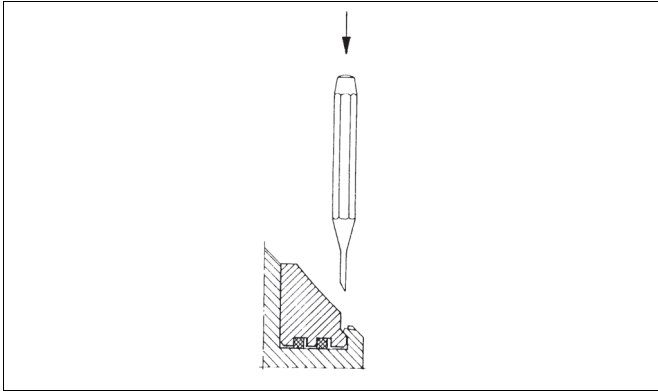

Fig. 10 Opening the seat locking
- Open the locking points with a sharp chisel to facilitate removal, see Fig. 10.